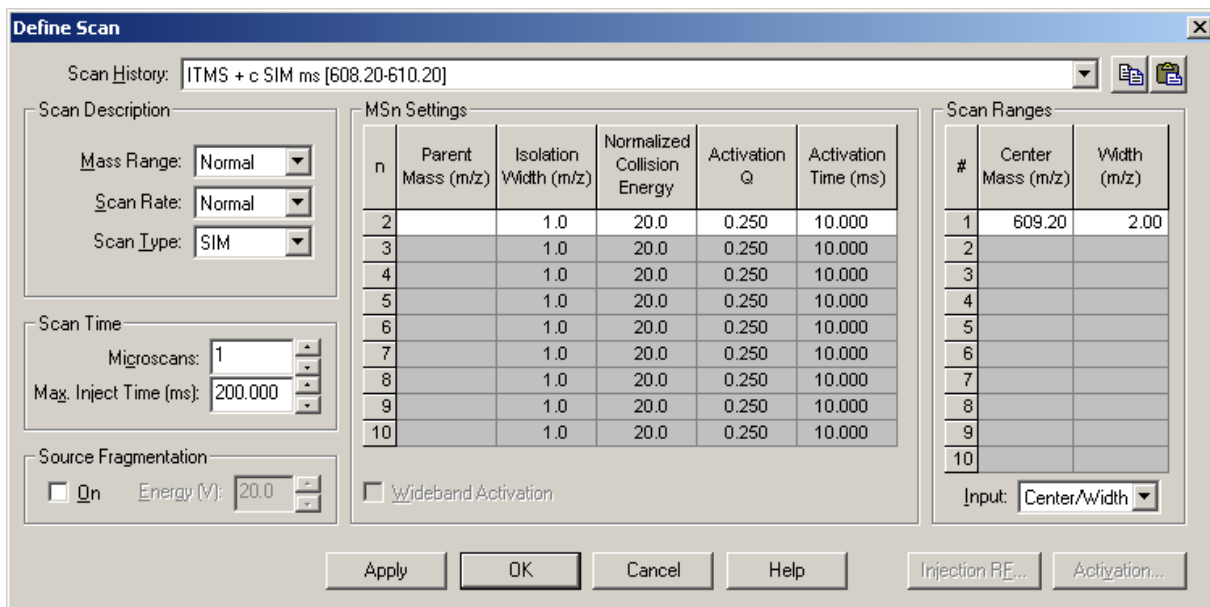

Figure 58. Define Scan dialog box, showing typical settings for APCI/MS operation
- a. On the Control/Scan Mode toolbar, click **Define Scan** to open the Define Scan dialog box. **Figure 58** (If your dialog box appears different from the one shown in the figure, it is probably because the advanced settings are not displayed. You can turn on the advanced settings as follows: In Tune Plus, choose **ScanMode**, and then click **Advanced Scan Features** to select the option.)
- k. Verify that the settings in your Define Scan dialog box are the same as those shown in Figure 58.